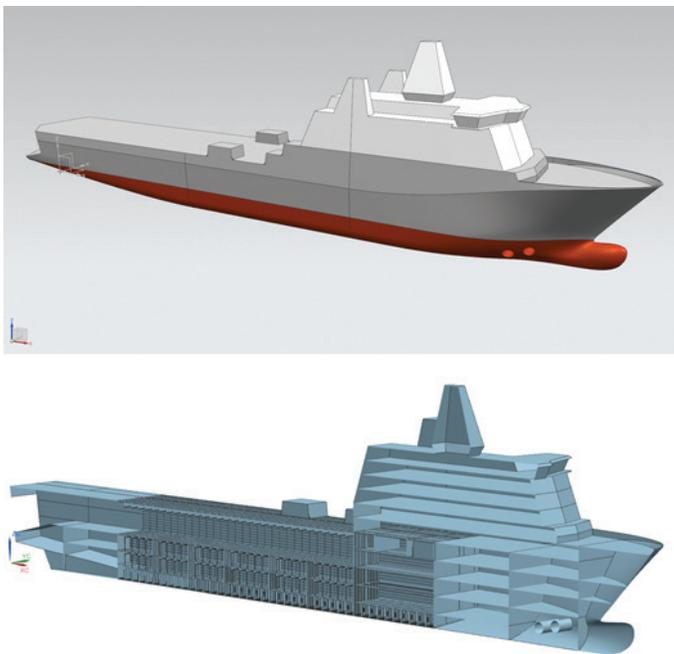

Figure 5: Parametric CAD model of the Siemens MRV.
Simulation-driven ship design enables rapid analysis and optimization of vessel designs by integrating parametric CAD and simulation, automated processes and intelligent design exploration. In this section we examine results from an example case based on a multi-role vessel (MRV). The geometry for this case is shown in figure 5.
1. The CAD (figure 5) master model is stored in NX™ software, from which we can directly derive the general arrangement drawings. Note that because the general arrangement is directly connected to our master model in NX, the drawing will always remain up-to-date. In this case we chose to define eight independent variables (parameters) that can be used to modify the baseline design vessel's hull shape. From the CAD we can also measure the deck area (one constraint) and all other surface areas.